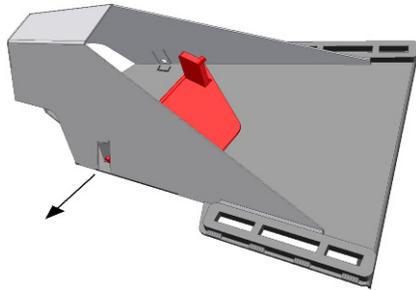

Figure 9: Rainflap Rod in Pre-Bent Hinge Tab
1. Insert one side of the rainflap rod into the pre-bent hinge tab on the sensor bracket. (**Figure 9**)